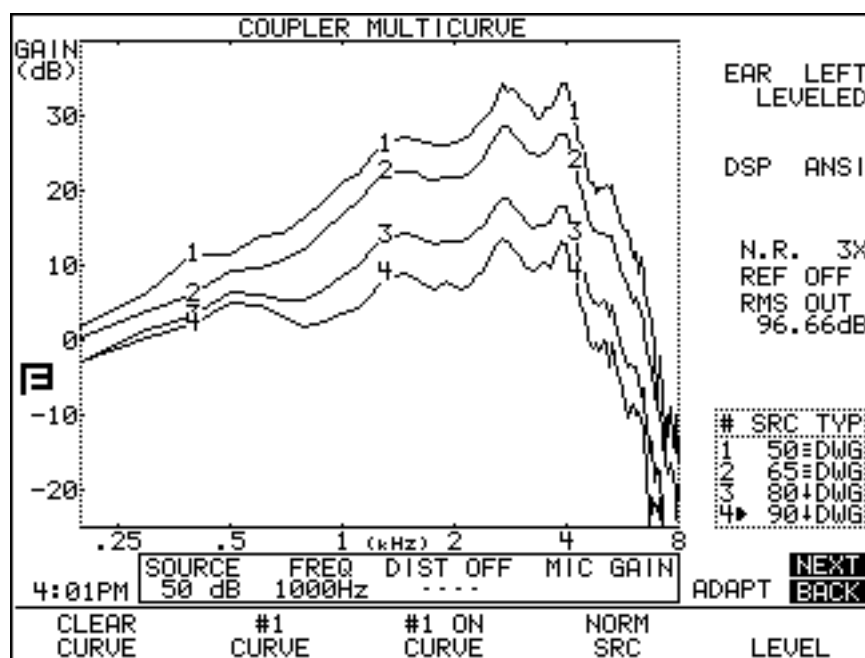

Figure 2.2.2—Frequency response measurement
7. Press [START/STOP] to begin the measurement. If you are using the COMP, DIG SPCH, or FAST source type, press [START/STOP] again to stop the measurement when it has stabilized. See Figure 2.2.2.